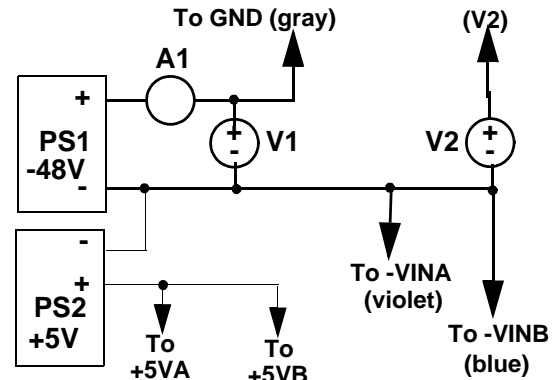

FIGURE 3. SUPPLY AND METER HOOK UP
1. One -48V power supply (0.5A total, 0.25A/channel) and one +5V supply are needed to fully exercise all functions of the device. The user should be sure the +5V supply is referenced to  $-V_{IN}$  to avoid damaging the IC. The external +5V supply (PS2) should be connected to the +5VA and +5VB test pins of each channel. The two channels can share the same negative supply ( $-V_{IN}$ , PS1) or operate from independent supplies if desired, but they share the same ground plane on each board (bottom). No special power-up or power-down sequencing is required. If only one channel is being tested, the other can be left unconnected. The following instructions are the same for both channels. As shown in Fig. 3, A1 is an optional ammeter to measure current; V1 is a Voltmeter to measure power supply voltage, and V2 is a voltmeter to look at other signals. Note that the voltmeters are referenced to the negative supply rail.